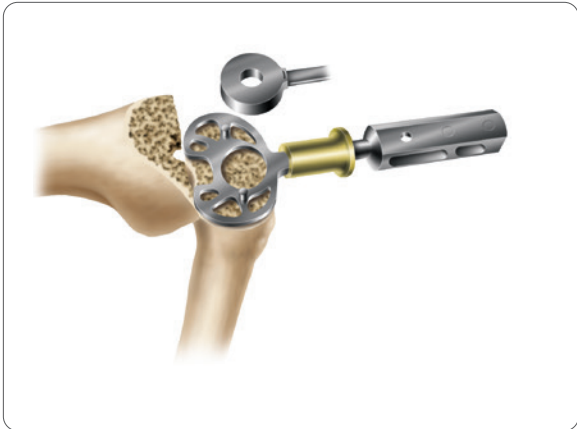

Figure 42
1. Place a tibial drill guide one size below the femoral component size on the cut tibia to assess coverage. As needed, additional sizes should be templated (**Figure 42**).